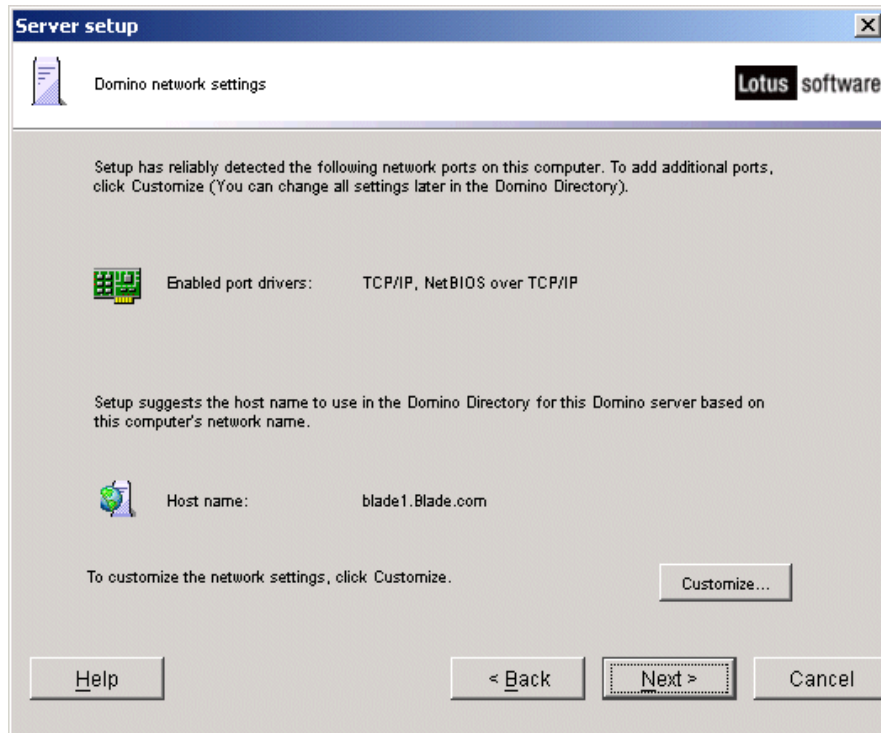

Figure 4-7 Network settings window
13. Now it is time to set up the Domino network settings. This process will detect any network ports already on the computer. See Figure 4-7 on page 43.